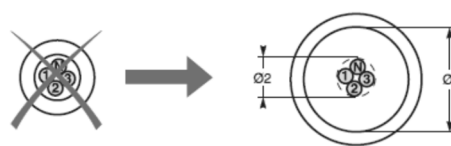

Fig. 5
4. As a rule, select a toroid that has an inside diameter which is twice that or greater than the outside diameter of the cable(s) to be passed through (see Fig. 5).